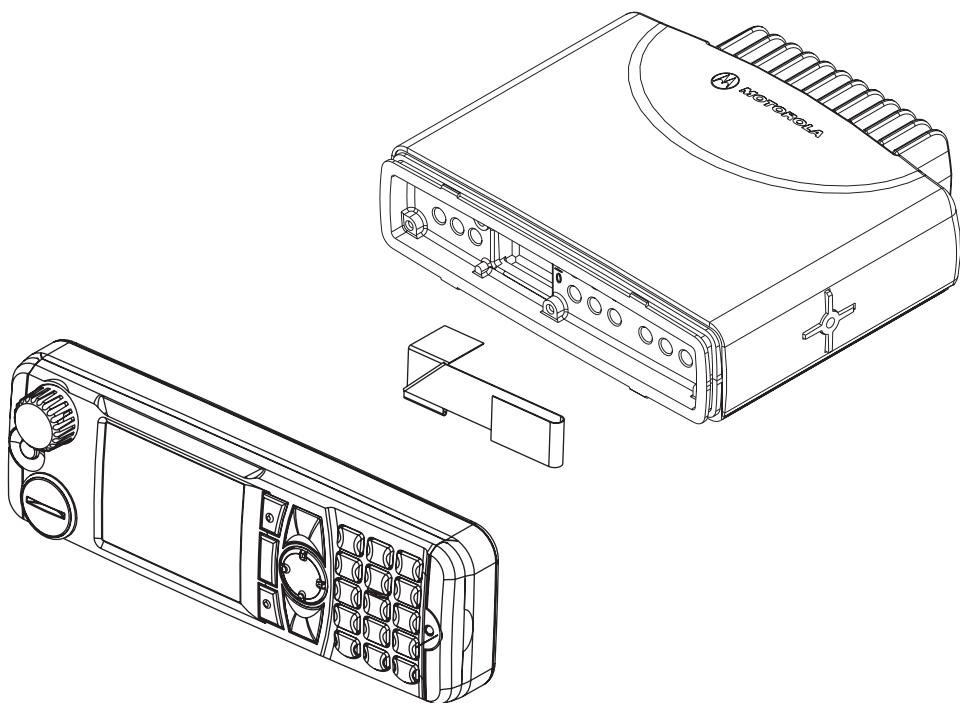

Figure 2 Flexible Connection Removal
1. Align the ‘dot’ or ‘O’ marking on the flex with the ‘O’ mark on the chassis to the socket on the terminal assembly as shown in Figure 2.